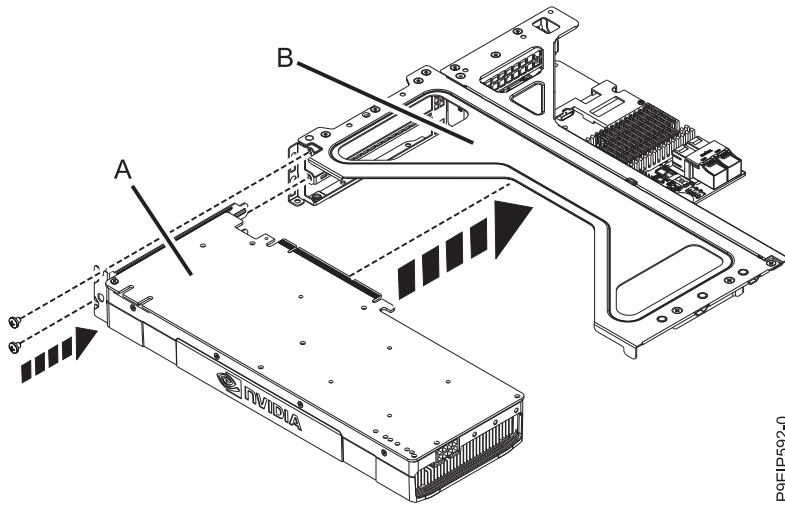

Figure 25. Inserting the GPU into the riser
2. Plug the GPU (A) into the PCIe adapter riser (B) as shown in Figure 25. Secure the GPU tailstock with one or two screws as needed.